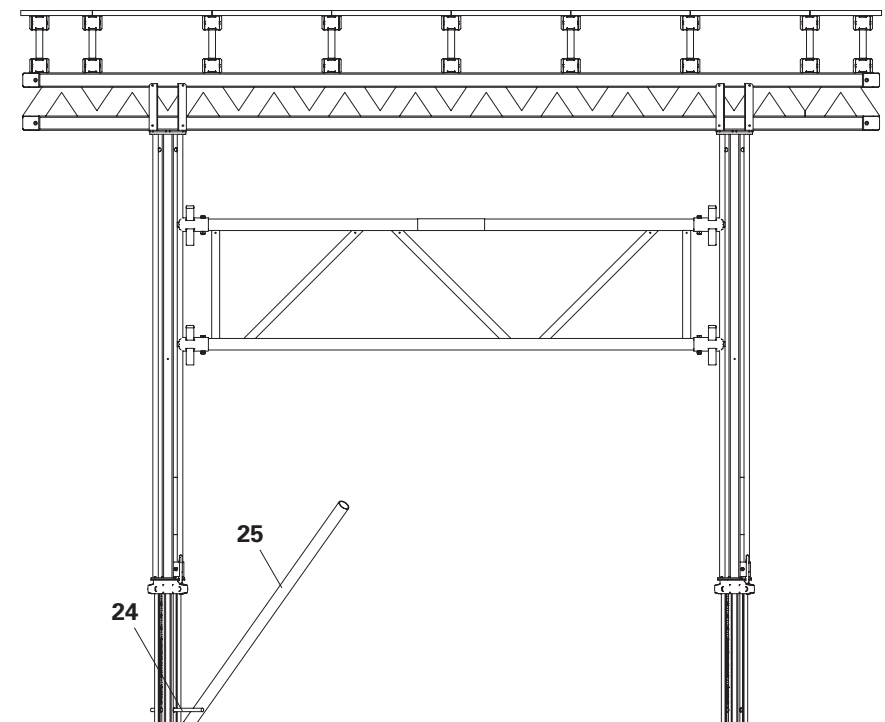

Fig. B3.03
1. Insert the reinforcement bar \varnothing 16 mm (24) into the lower holes of the MULTIPROP MP.
2. Move the slab table with a second \varnothing 16 mm reinforcement bar (24) or pole (25). (Fig. B3.03)